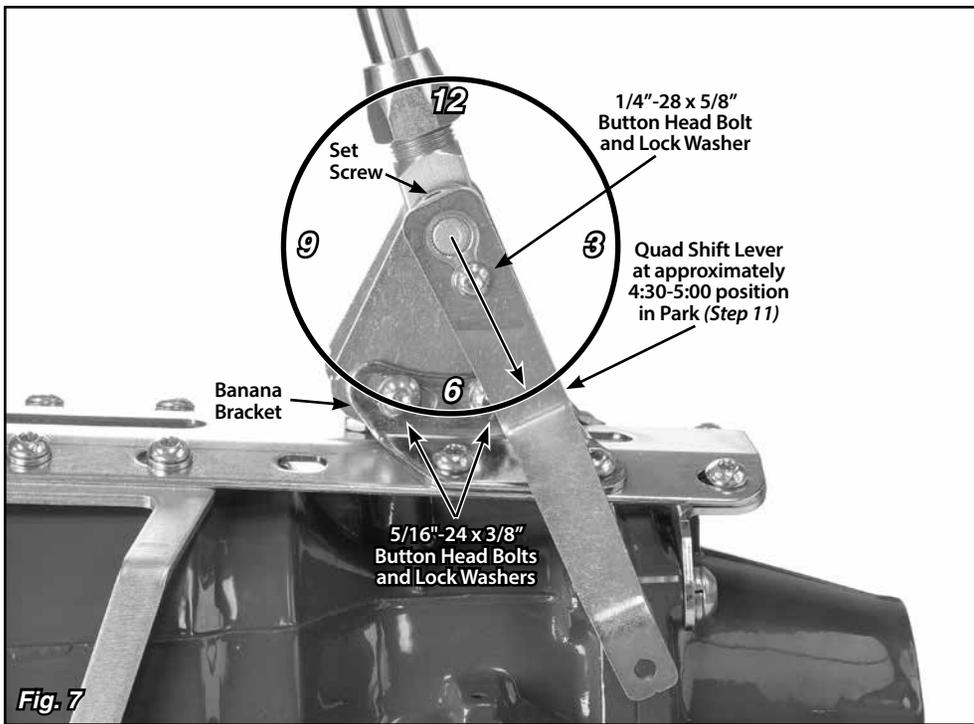

Fig. 7
Step 11: Make sure the two 5/16"-24 x 3/8" button head bolts and lock washers that attach the driver side banana bracket to the shifter assembly (in the curved, slotted holes) are tight using a 3/16" Allen wrench. Before tightening the shifter assembly down to the main plate, move the shifter lever through all the gear positions. Make sure that the shifter lever and knob do not come in contact with the dash or the seat. The shifter assembly can be tilted forward or backward if needed by loosening the 5/16"-24 x 3/8" button head bolts and lock washers in the curved, slotted holes in the driver side banana bracket. **Fig. 7**
Step 12: Make sure the shifter lever is in the Park position. Temporarily place the quad shift lever in position on the quad lever bushing as shown in **Fig. 7**. Check for interference with the vehicle floor. With the shifter lever in Park, you want the quad shift lever to be at approximately the 4:30 - 5:00 position.